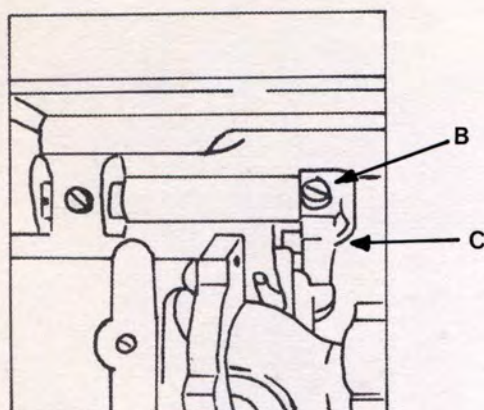

Fig. 8. Feed Adjustments.
2. Loosen clamping screw B, Fig. 8.